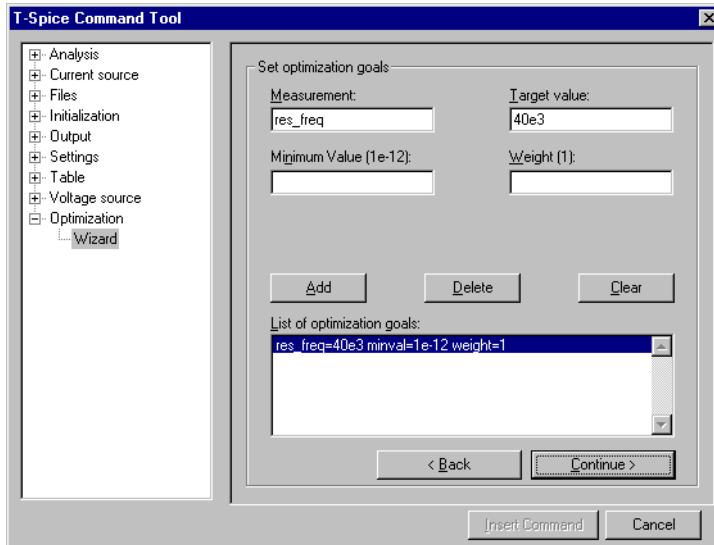

Figure 95: Customizing the optimization goals
- Set **Measurement** to **res_freq** and **Target value** to **40e3**. Click **Add** to add these values to the **List of optimization goals** (Figure 95). When you finish, the **T-Spice Command** tool dialog will look like the following: